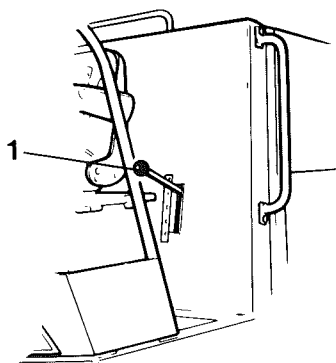

Fig. 8 Operator's platform
- 3 Set the gear lever (1), fig 8, to the desired position (see the sticker).